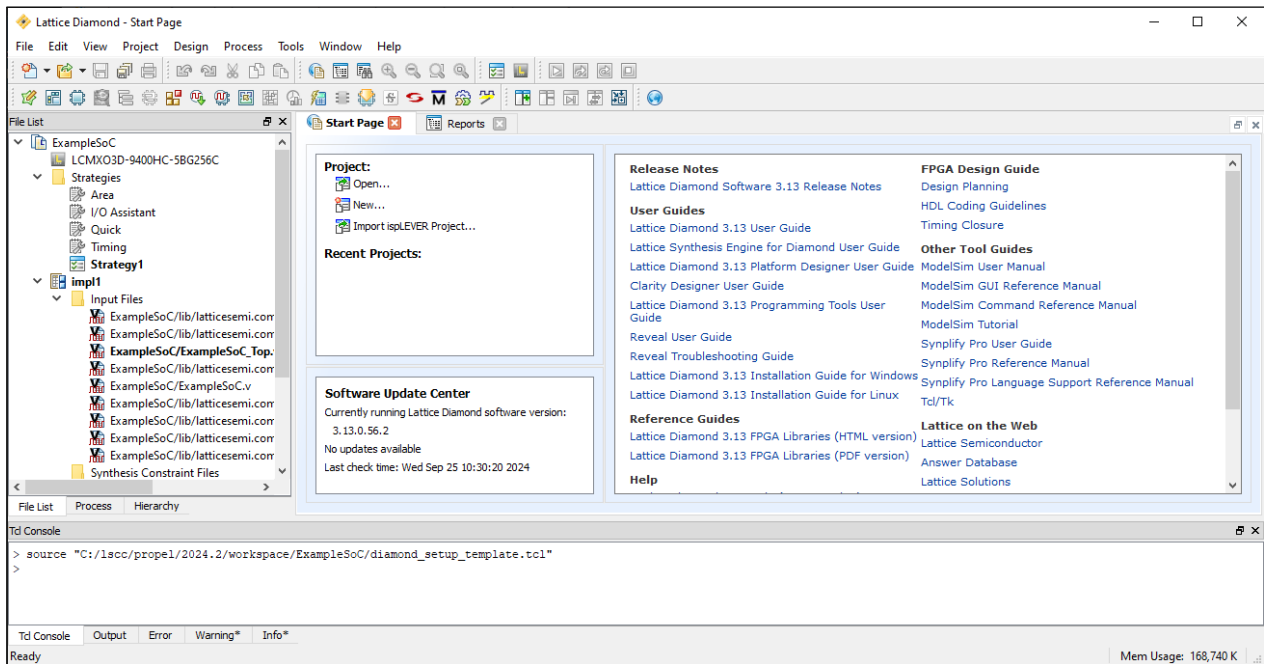
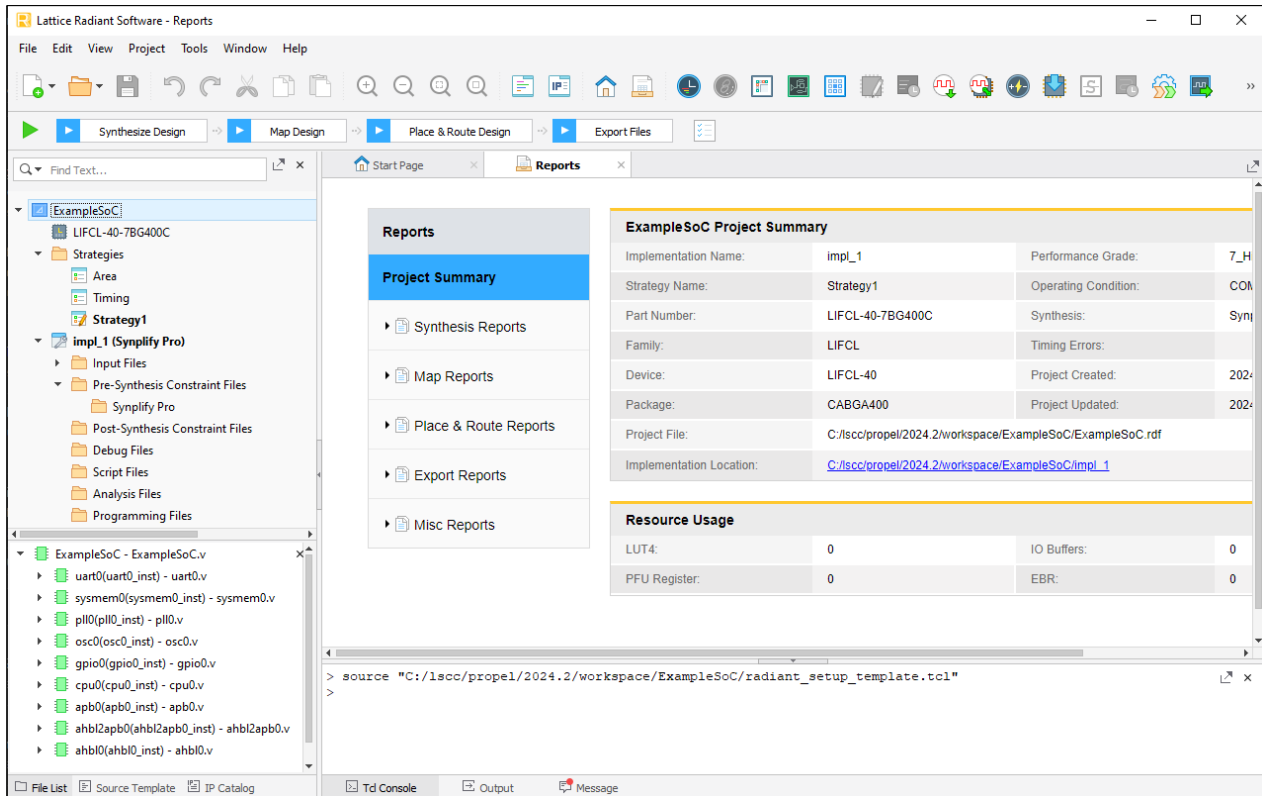

Figure 3.17. Lattice Diamond Software Project
Figure 3.18. Lattice Radiant Software Project
4. The Lattice Diamond/Radiant project for SoC is generated at background and is launched (Figure 3.17/Figure 3.18).